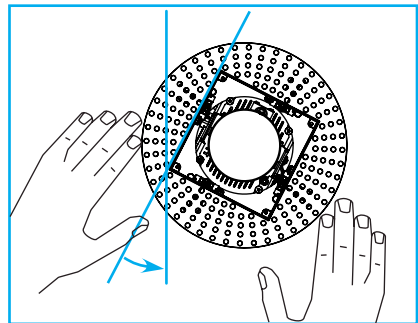

Fig.33
**Important:** Square appliqués require alignment. With retaining tabs loosened slightly, use string line or laser level to obtain uniform or desired alignment between multiple fixtures or adjacent wall planes. Tighten retaining tab screws when complete *"Fig.33"*.